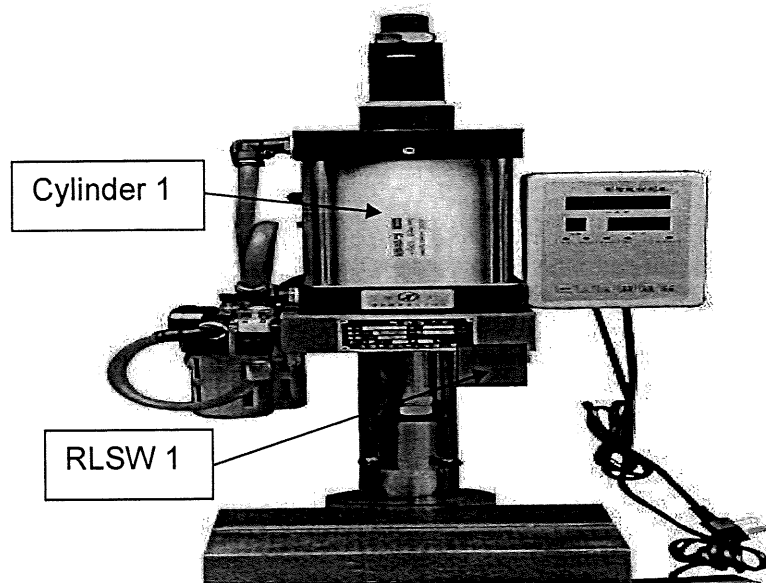

Figure 3
- b) Figure 3 shows, the piston rod of a double acting cylinder 1 is to extend, when three of normally open pushbuttons (PB1 AND PB2 AND PB3) are actuated and will only retract when the fully extend position of a double acting cylinder is reached, which detected by a normally open Roller Limit switch (RLSW1) AND, after 20 seconds extension of fully extension of cylinder.